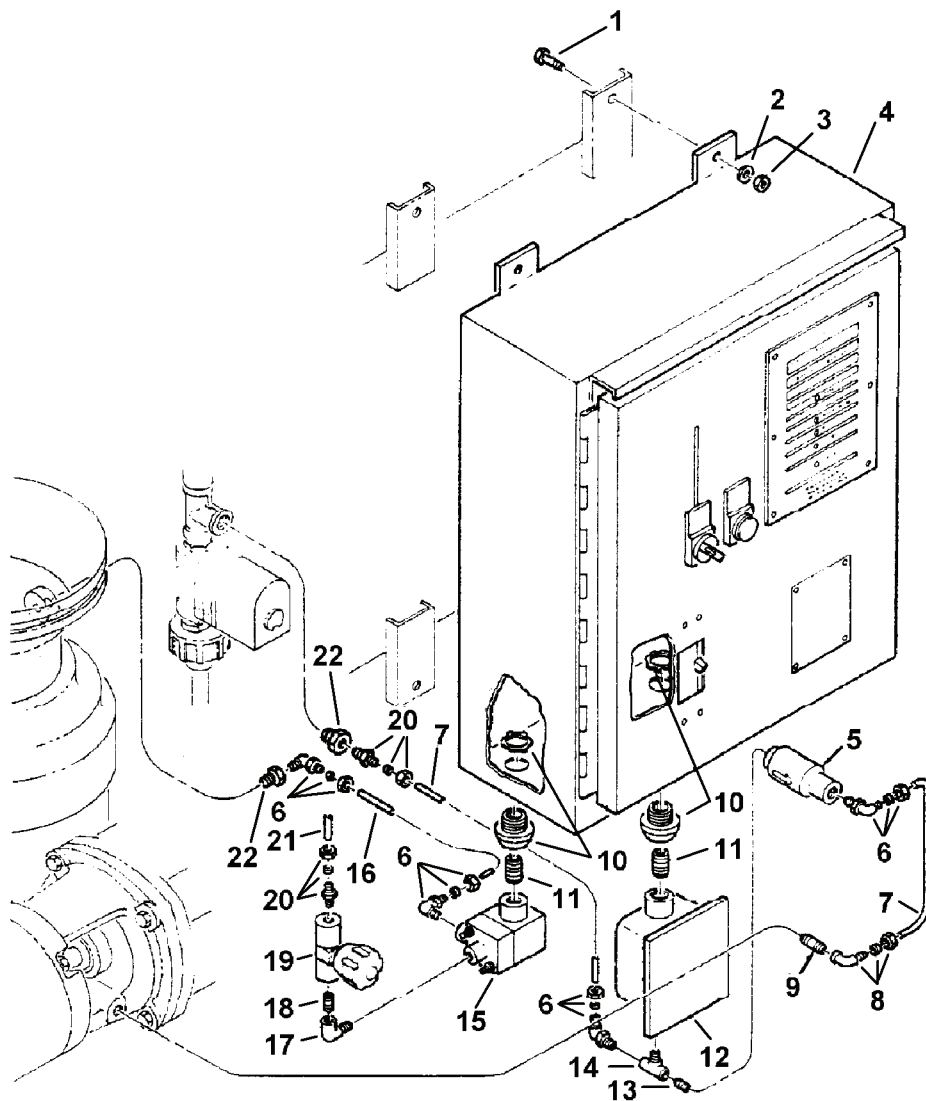

Figure 2-11. Control Panel Assembly.
- a. To remove the control panel assembly (4, Figure 2-11) proceed as follows:
- (1) Label and disconnect wiring from flow pump (Paragraph 2-19), macerator (Paragraph 2-18) and backwash solenoid valve (Paragraph 2-14).
- (2) Label and disconnect wiring from level sensors (Paragraph 2-17).
- (3) Label and disconnect wiring from metering solenoid valve and pressure switch (15 and 12, Figure 2-11).
- (4) Remove control panel assembly by removing four screws (1), nuts (3) and washers (2) (Figure 2-11) from the control panel assembly and the MSD assembly.
- b. To remove metering valve (19, Figure 2-11) proceed as follows:
- (1) Close the bleach tank isolation valve.
- (2) Place a small container under the metering valve (19) during removal to catch bleach runoff from the tube.
- (3) Remove straight tube adapter (20) from metering valve (19).
- (4) Remove metering valve (19) from pipe nipple (18).
- c. To remove metering solenoid valve (15, Figure 2-11) proceed as follows:
- (1) Close metering valve (19).
- (3) Remove pipe elbows (6 and 17) from metering solenoid valve (15).
- (4) Remove metering solenoid valve (15) from conduit nipple (11). Removal of electrical wire for the metering solenoid valve (15) may require loosening or removal of the electrical conduit coupling (10).
- d. To remove check valve (5, Figure 2-11) proceed as follows:
- (1) Remove pipe elbow (6) from check valve (5).
- (2) Remove check valve from pipe nipple (13).
- e. To remove backwash pressure switch (12, Figure 2-11) proceed as follows:
- (1) Remove tubing (7) by unscrewing pipe elbow (6).
- (2) Remove check valve (5) from pipe nipple (13). Retain check valve (5) for installation.
- (3) Remove 4 screws from cover of backwash pressure switch (12). Retain cover and screws for installation.
- (4) Label and disconnect wires from backwash pressure switch (12), wire TB3-14 from N.O. contact, wire TB3-15 from C contact and wire TB3-3 from Ground.
- (5) Remove conduit nut (10) and lower backwash pressure switch (12) and nipple (11) out and away from control panel assembly (4).
- (6) Remove pipe nipple (13), pipe tee (14) and pipe elbow (6) from backwash pressure switch (12). Retain pipe nipple (13), pipe tee (14) and pipe elbow (6) for installation.
- (7) Remove backwash pressure switch (12) from its enclosure.
- a. To replace the control panel assembly (4, Figure 2-11) proceed as follows:
- (1) Remove the control panel assembly (4) proceed as described in removal step a.
- (2) Install control panel assembly by installing four screws (1), nuts (3) and washers (2) (Figure 2-11) on the control panel assembly and the MSD assembly.
- (3) Connect wiring to metering solenoid valve and pressure switch (15 and 12, Figure 2-11) as described in replacement steps c and e.
- (4) Connect wiring to level sensors (Paragraph 2-17).